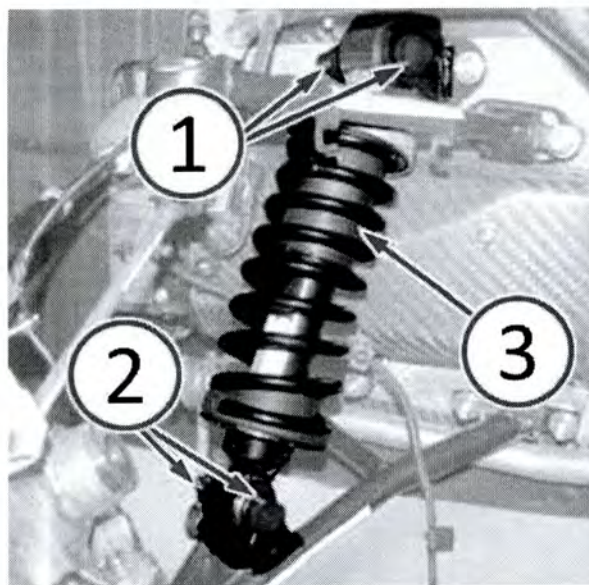

Fig. 2 Remove Fasteners And Reposition Shock Absorber
3. Remove the upper fasteners (1) from the shock absorber (Fig. 2).
4. Remove the lower fasteners (2) from the shock absorber (Fig. 2).
5. Reposition the shock absorber (3) for access to the upper shock absorber bracket (Fig. 2).